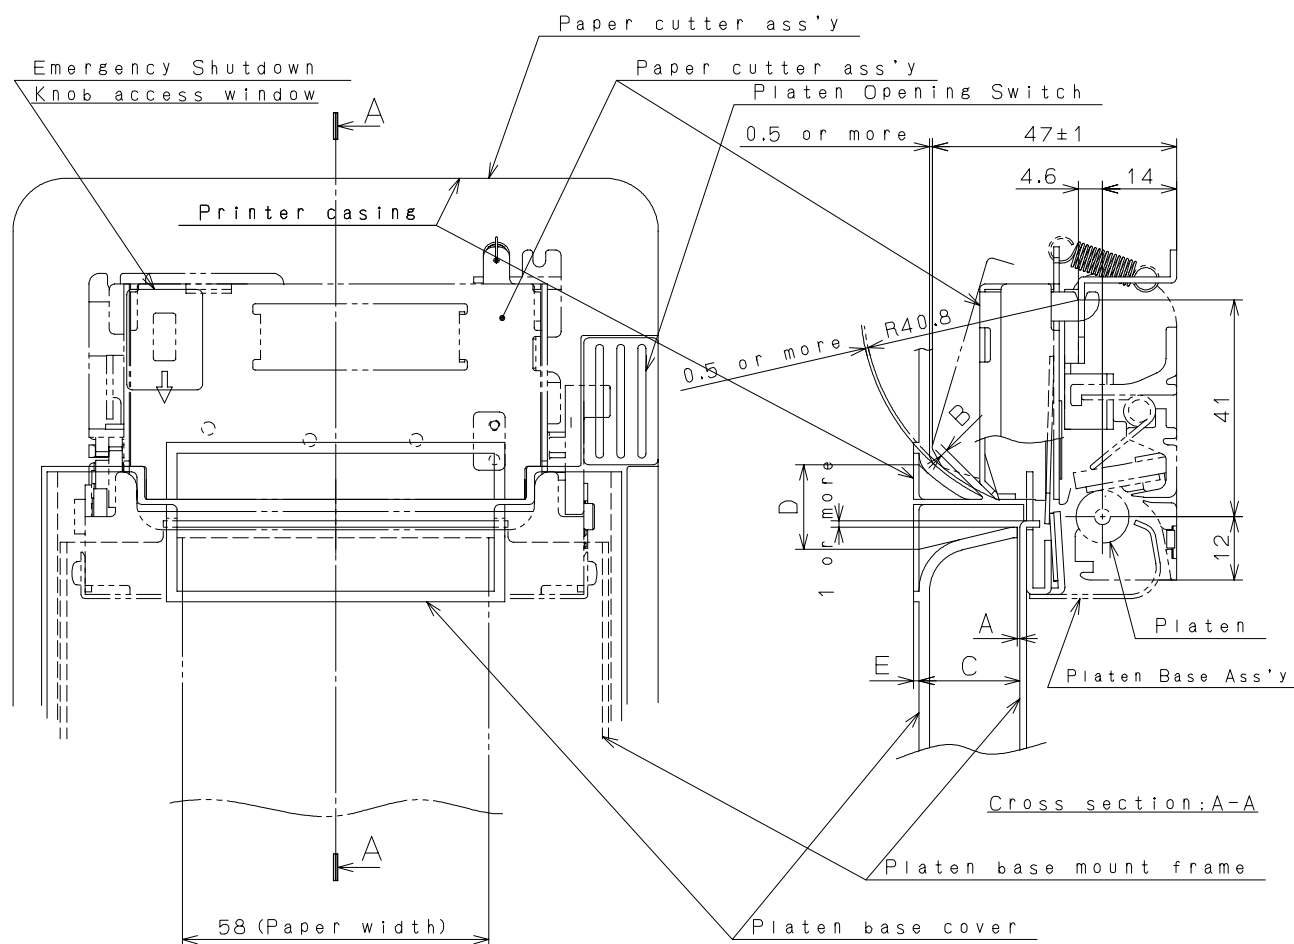

Figure 13-9 Notes on Designing Exterior Case
- (3) The exterior case should be carefully designed so the cut edge of roll paper will not enter the platen holder ass'y, with care to keep the moving blade of paper cutter from interfering with the casing (dimensions A and B should be as short as possible). See Figure 13-9.
- (4) The paper exit in the exterior case should be designed not to block the leading edge of paper discharged from the auto cutter under any circumstance.
- (5) The distance (C) between the paper exit in the auto cutter and that in the exterior case g should be no less than 20 mm. The height (D) of the paper exit in the exterior case should be as large as possible yet not so large as to allow an operator's finger. See Figure 13-9.
- (6) The paper exit in the exterior case should be designed to keep any foreign object from dropping into the printer. See Figure 13-9 (section E).
- (7) The paper exit in the exterior case should have such a construction that the paper discharged from the paper cutter is led out through a straight path without any bends. Otherwise, a paper jam could occur.
- (8) The exterior case should have adequate interlocks that will shut off the power to the printer whenever its cover is opened for maintenance or paper loading.
- (9) The platen base should have an adequate interlock that will shut off the power to the paper cutter whenever the platen is opened. Otherwise the moving blade of the paper cutter could protrude from the cutter in the event of CPU runaway, possibly causing an injury.
- (10) The stationary blade of the paper cutter is exposed on the platen holder ass'y. Be sure to cover the blade with a safety cover to prevent direct physical contacts. Also apply a warning label on the safety cover to alert the operator to potential danger.
- (11) Never attempt idle cutter operation with no paper loaded, as it will significantly shorten the cutter life and may cause various other trouble.
- (12) To prevent unexpected injury, never touch the cutter unlocking lever while the cutter is operating.
- (13) Under normal printing condition or in the event of paper jam, do not forcibly pull the paper out of the printer as it may damage the printer mechanism.
- (14) The paper cutter is not usable with label rolls. If used, paper jam or other trouble may result.